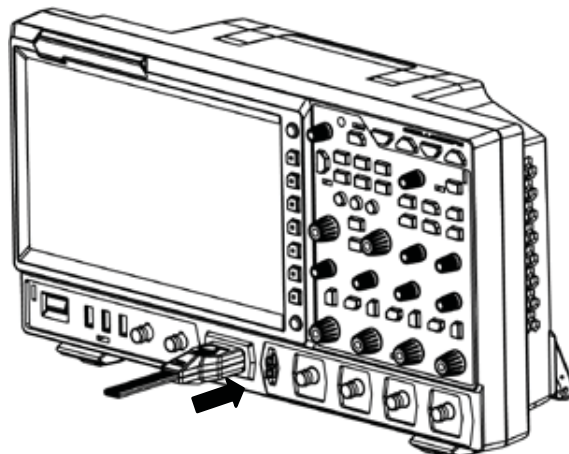

Figure 9 To Connect the Logic Probe
1. Connect the single-wire terminal of the logic probe to the digital channel input terminal on the front panel of the oscilloscope in the correct direction, as shown in Figure 9.